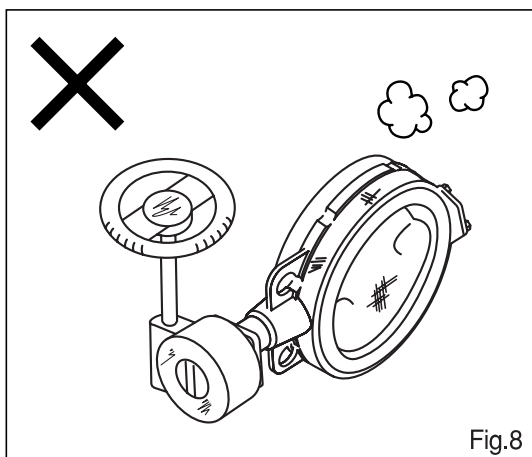

Fig.8
- **Un-packing** : Un-packing of valve to be recommended before its installation to pipings. If valve stored being unpacked for long, dust or foreign matter will get into the valve. If will cause malfunctions. (Fig.8)